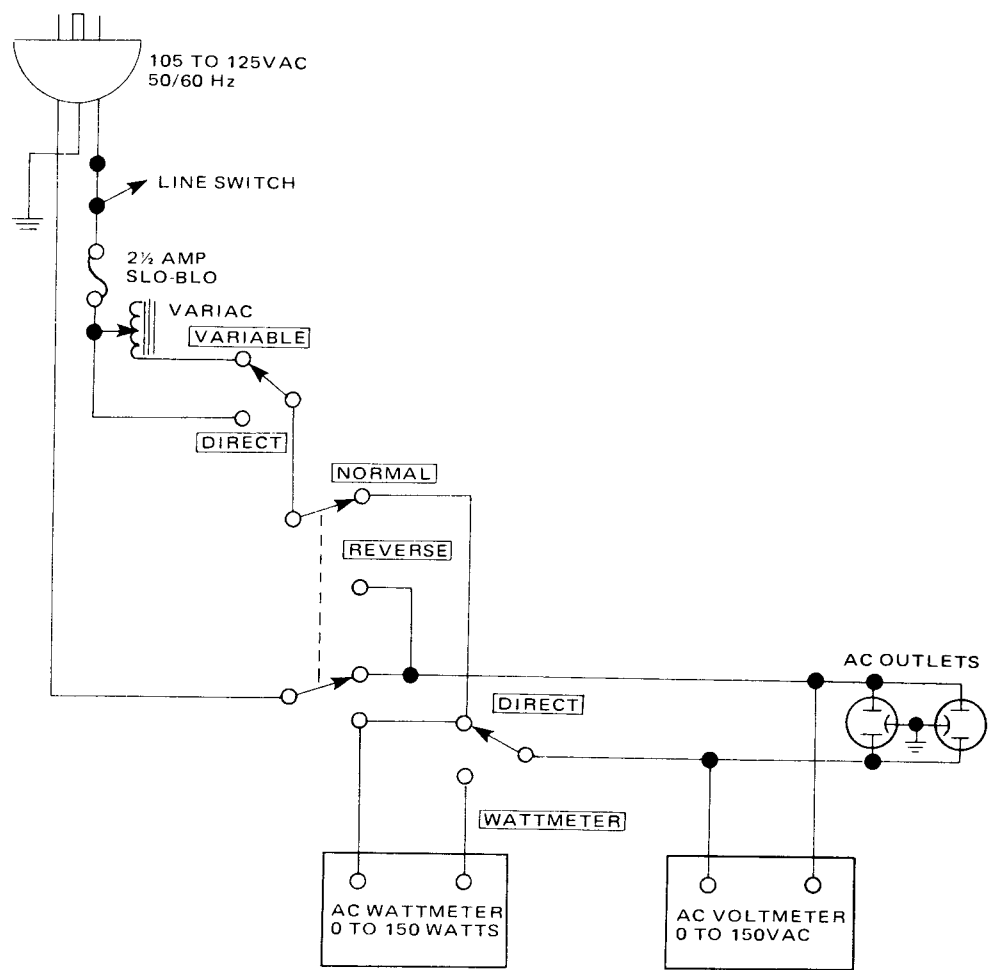

Figure 1. AC Power Control Box Simplified Schematic
- Make the test setup shown in Figure 1 with the instrument controls set in the following positions: